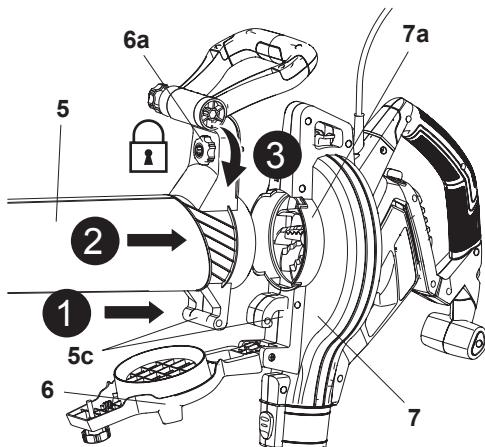

Fig. 5
- Hook the tube protrusion (5) for hanging (5c) to the main unit (7), then insert the tube assembly (5) into the vacuum port (7a) as far as it will go (Fig. 5, steps 1, 2).
- Tighten the locking knob (5b) clockwise to secure the vacuum tube assembly in place (Fig. 5, step 3).